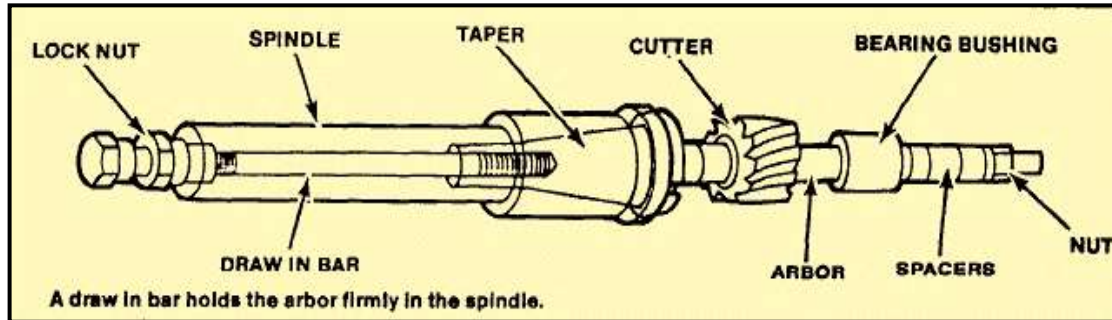

Figure 8-11. Standard milling machine arbor.
**Standard Milling Machine Arbor:** The standard milling machine arbor has a tapered, cylindrical shaft with a standard milling taper on the driving end and a threaded portion on the opposite end to receive the arbor nut. One or more milling cutters may be placed on the straight cylindrical portion of the arbor and held in position by sleeves and the arbor nut. The tapers are identified by the number 30, 40, 50, or 60. Number 50 is the most commonly used size on all modern machines. (Figure 8-11).